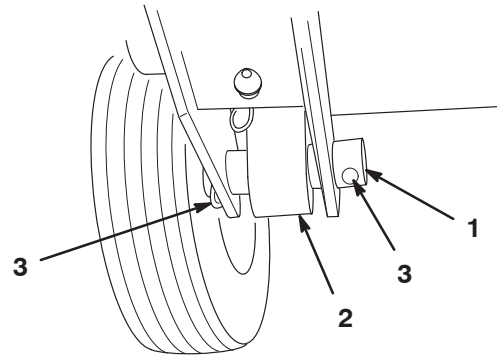

Figure 2
5. Mount the rear of the lift arm to the lift cylinder with a pivot pin and 2 cotter pins (supplied with the traction unit) (Fig. 2).